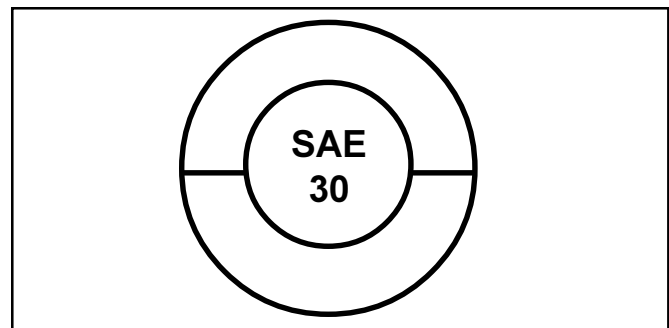

**Figure 2. Viscosity Grades Table.**
1. Be sure to use the proper oil for the temperature expected. See Figure 2 on page 4.